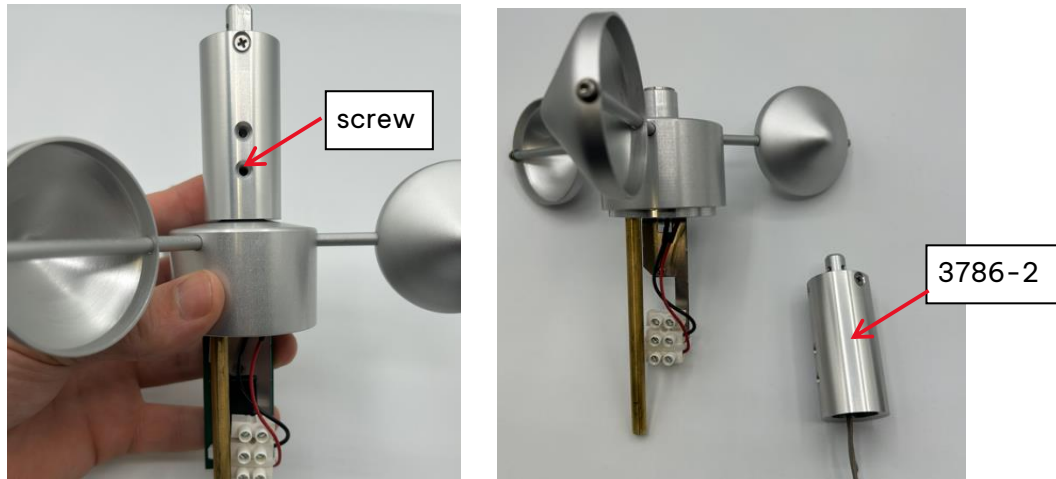

Figure 5-5 Wind Direction Encoder Removal
- F. Loosen the screw as shown in Figure 5-5 to get access to the cup assembly. Pull the Hall effect encoder assembly off (3786-2).